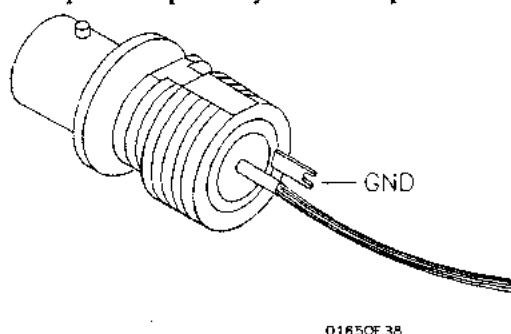

Figure 3-1. Test Connector
The logic analyzer performance tests and adjustments require connecting the pulse generator outputs to probe pod inputs. Figure 3-1 is a test connector that may be built to allow testing of multiple channels (up to eight at one time). The test connector consists of a BNC connector and a length of wire. Connecting more than eight channels to the test connector at a time will induce loading of the circuit and true signal representation will degrade. Test results may not be accurate if more than eight channels are connected to the test connector.
The Hewlett-Packard part number for the BNC connector in figure 3-1 is 1250-1032. An equivalent part may be used in place of the Hewlett-Packard part.
Test Connector (2)	see figure 3-1 and 3-2